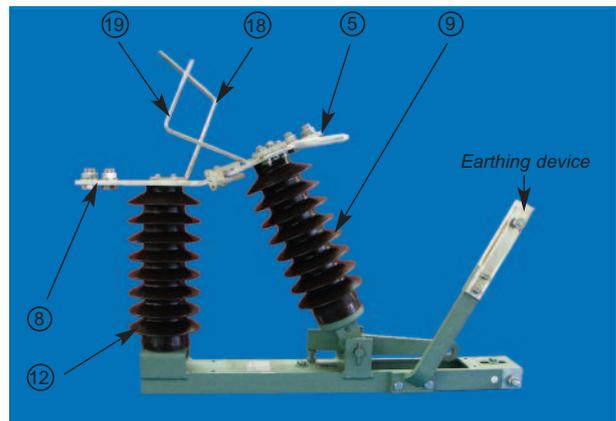

Fig. 31: Removal/Installation of main contact system
Maintenance measures: (Fig. 31/32)
- Remove connecting plate (5) from the hinged insulator (9) by releasing the two fastening bolts M10x25 (11) (Fig. 31 and 32)
- Install new connecting plate (5) on the hinged insulator (9) using the two fastening bolts M10x25 (11) and tighten slightly
- Ensure linear arrangement of the new connecting plate (5) toward the fixed contact plate (8) using a straight edge
Job 3: Replacing the breaking horns on the fixed insulator (12) (Fig. 31 and 32)
- Remove breaking horn (18) by releasing the two fastening bolts M 6x25 (21) from the contact plate
- Install new breaking horn (18) with fastening bolts M 6x25 (21) including washer, lock washer and nut (tightening torque: 7 Nm)